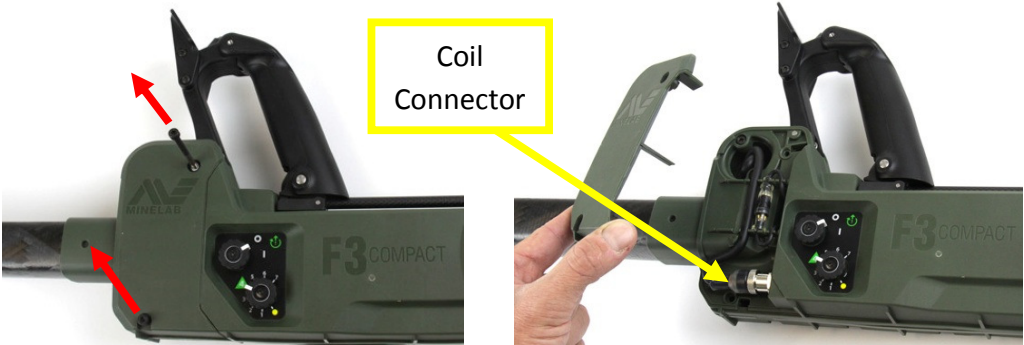

Figure 49: Removing Hinge Cover
- Place the detector on its right side and remove the two (2) screws (45mm) that secure the hinge cover. Figure 49.